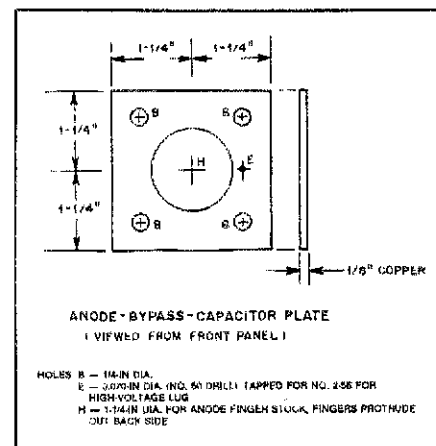

Fig. 5 — Drilling details for the anode bypass capacitor plate. See Fig. 2 for additional information on hole location.
- C7 — Anode-bypass capacitor, 90 pF. Homemade from copper plate and Teflon sheet. See text and Figs. 5, 12 and 15.